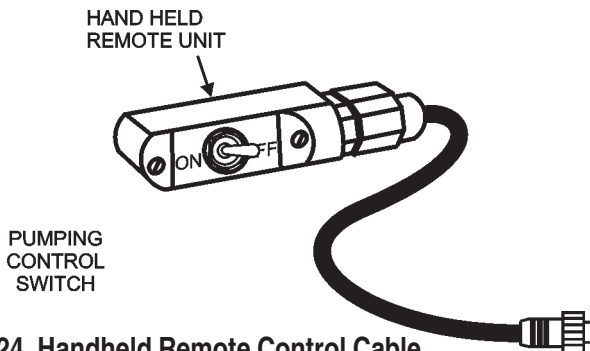

Figure 24. Handheld Remote Control Cable
1. Connect the hand-held remote control cable (Figure 24) to the control box.
3. To begin pumping, place the toggle switch on the hand-held remote unit (Figure 24) in the pump **ON** position